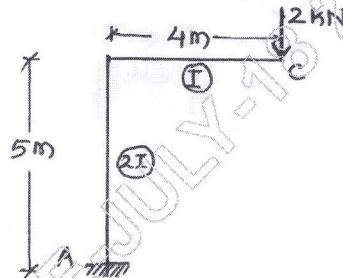

Fig.Q.5(b)
- b. Determine the vertical deflection at 'C' in the frame shown in Fig.Q.5(b). Take $E = 200 \times 10^6 \text{ kN/m}^2$ and $I = 3 \times 10^7 \text{ mm}^4$. Use Strain - Energy method. (10 Marks)